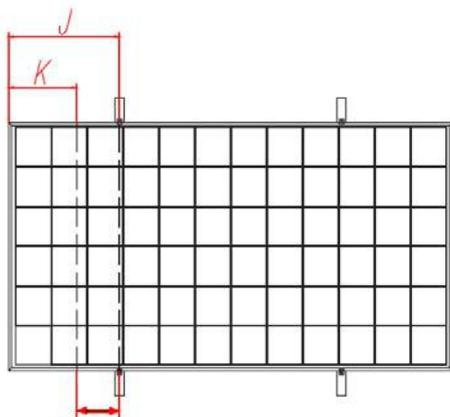

Figure 3A
- Modules should be mounted —using purpose-designed and certified clamps, and can be laid either across rails (Figure 3A), or parallel to the edge of frame (Figure 3B).